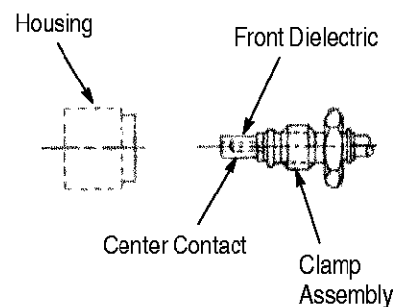

Figure 6
2.4. Securing the Inner Sleeve Subassembly to the Housing (Figure 6)